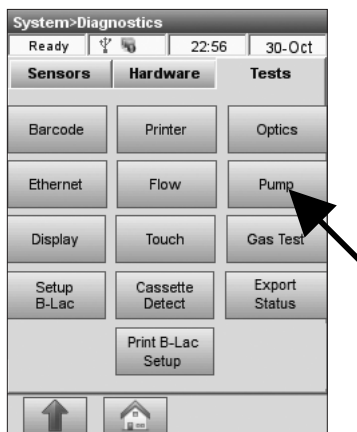

Fig. 8-27 Pump Motor Test
- Press **<Pump>** to start the test (Fig. 8-27).